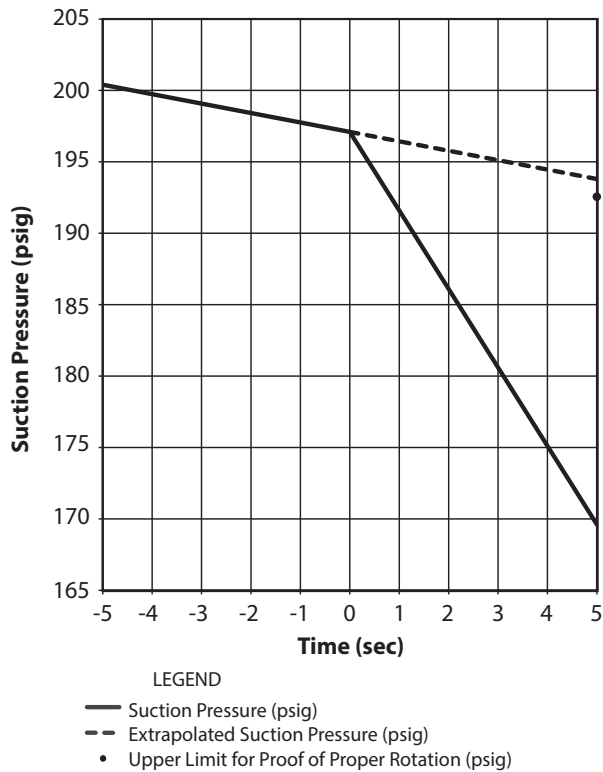

Fig. 46 — Reverse Rotation Detection (psig)
The example below lists sample suction pressures of a starting circuit. Figures 46 and 47 show reverse rotation detection for this example.
Using the rate of change of the suction from the example, five (5) seconds after t=0, the suction pressure should be 193.8 psig (1336 kPa), if the compressor did not start. Subtracting the 1.25 psig (8.62 kPa) from extrapolated suction pressure, 192.55 psig (1328 kPa) determines the upper limit that if the suction pressure is above this level the unit will fault on reverse rotation. This point is denoted by a black dot in Fig. 46 and 47. In the example, the suction pressure is lower than the upper limit, and therefore is allowed to continue operation.